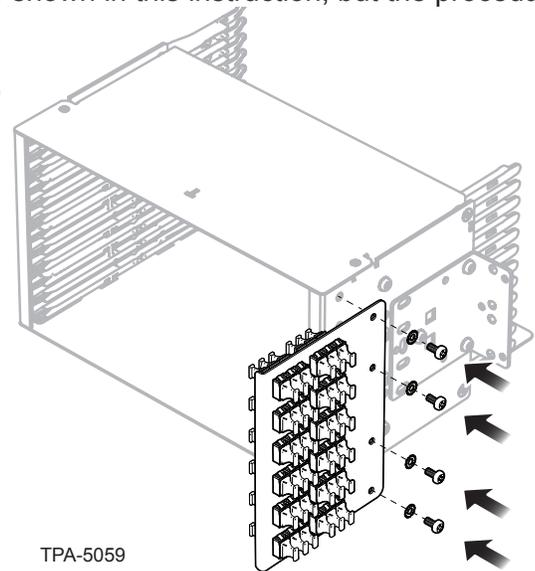

Figure 1
**Step 1:** Attach the bracket kit to the rear of the housing as shown in Figure 1.